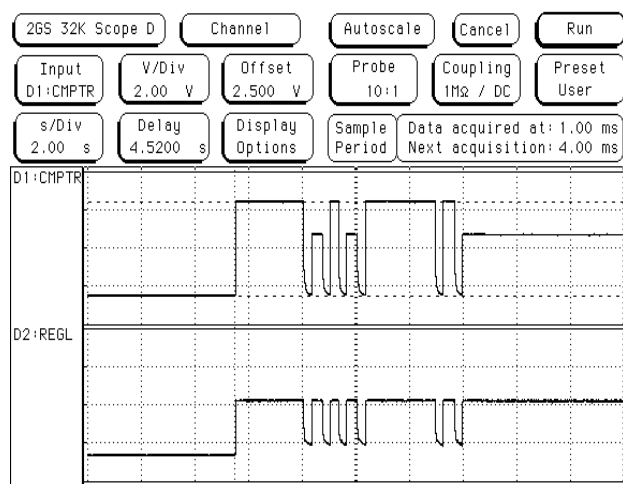

FIGURE 1. TYPICAL VOLTAGE TRANSIENT ON BOOTING COMPUTER
This overvoltage condition is captured in the upper trace of Figure 1. This data was measured in a new laptop computer while powering an ISL37101P PRISM 3 PCMCIA assembly. Note, in the upper trace, that the computer initially applies 5V to the card, followed by several transitions between 0V, 3.3V and 5V and finally settling at 3.3V. Furthermore, the power bus takes approximately eight seconds to stabilize!
In order to make a radio 5V tolerant, a 2.84V low dropout voltage regulator (LDO) is added in series with the digital power bus feeding the Medium Access Controller (MAC), Baseband Processor (BBP) (or Combo chip, if these two are combined), SRAM and Flash (or EEPROM). Additionally, on the ISL37300P and HWB3163 designs, the analog power supply pins on the BBP or Combo chip must also be fed from this LDO. These Intersil PRISM devices are all rated for operation down to 2.7 VDC. The various RF power amplifiers used in these chipsets are designed to be able to withstand 5V as long as they remain disabled. This requires that the amplifier's power enable pin (PE) remain low during this transient period. All other power buses used in the designs are already fed through separate voltage regulators so need not be routed through the LDO. The net result is that radio performance will not be affected by these changes. The effect of adding this LDO may be seen in the lower trace of Figure 1. Clearly, this regulator clips the voltage transient and ensures proper operation of the card. The selection of the LDO is critical. Special attention needs to be paid to the minimum guaranteed output voltage under load conditions.